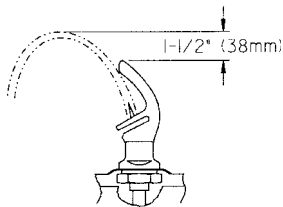
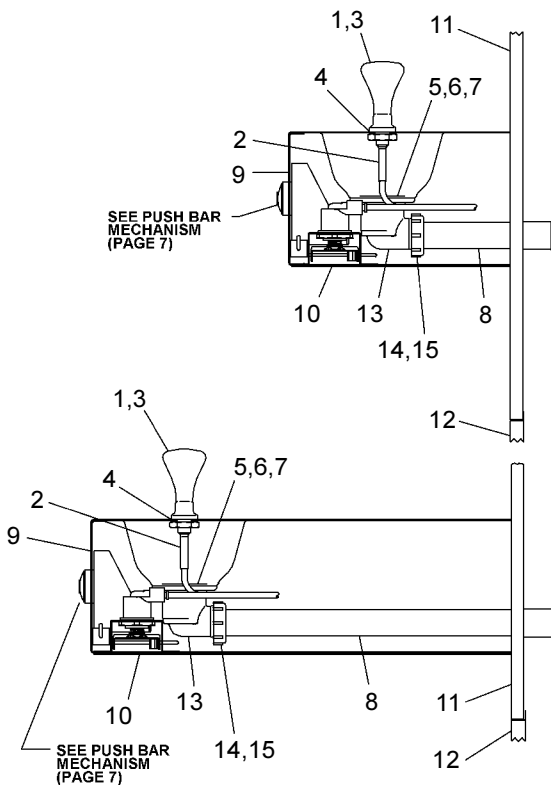

Figure 17 – Stream Height
Figure 18 – Fountain Assembly - Side View
10. **Check stream height from bubbler.** Stream height is factory set at 35-40 PSI. If supply pressure varies greatly from this, remove the cover bottom (Item 10 – Figure 18) and adjust the screw on the regulator (Item 32 – Figure 15). Clockwise adjustment will raise stream height and counterclockwise movement will lower stream height. For best adjustment, stream height should be approximately 1-1/2" (38mm) above the bubbler guard. (See Figure 17).
11. **Mount lower panel.** Loosen the two (2) #10-24 x 5/8" (16mm) screws at frame bottom lip. Slide upper tongue of lower panel under lower edge of already installed upper panel. Tighten previously loosened screws securely.